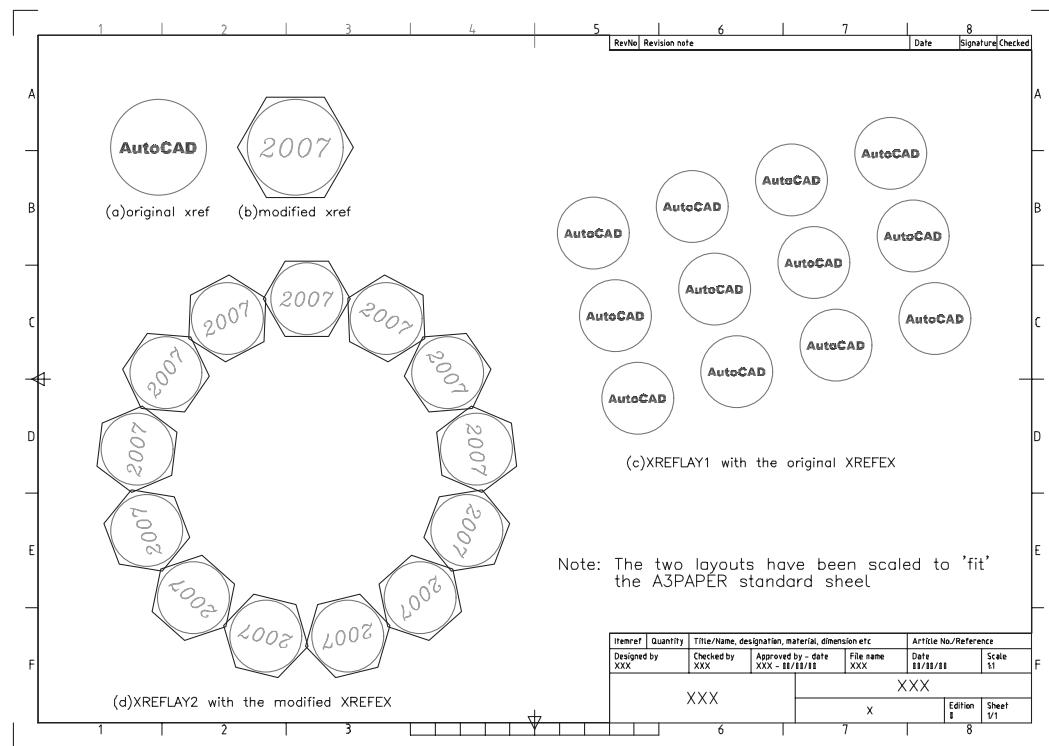

Figure 29.4 The external reference exercise.
- 1 Open your A3PAPER standard drawing sheet and refer to Figure 29.4.
- The text style is to be ST3 and the item of text is AutoCAD and blue – Figure 29.4(a).
- 6 Save the layout as **C:\MYCAD\XREFLAY1** – Figure 29.4(c).
d) These modifications are shown in Figure 29.4(b).